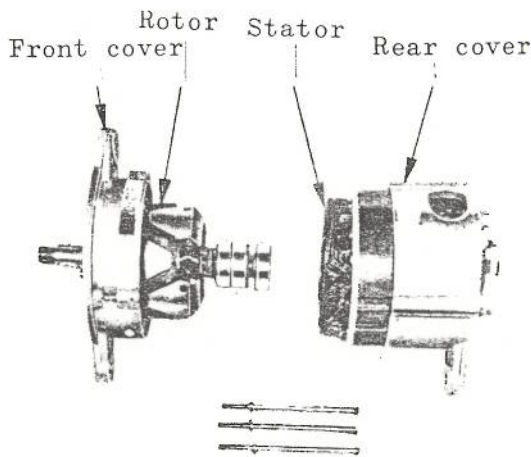

Fig. 10-23
- (2) Remove the through bolts and then remove the front cover. (See Fig. 10-23)